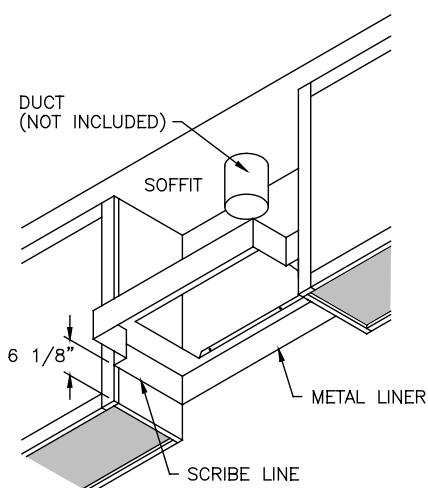

Figure 3
B. Installation: Metal Liner – T-Shaped, Figure 3
2. Raise Metal Liner so that bottom edge of liner is level with scribed lines. Use four (4) #8 x 1 1/2" screws (provided) to attach liner to adjacent cabinets through pre-drilled holes in liner. (If metal liner is not flush to cabinet sidewalls, it may be necessary to use a filler piece to avoid bowing the liner.) Locate studs and place two #8 x 1 1/4" (supplied) through rear of liner.